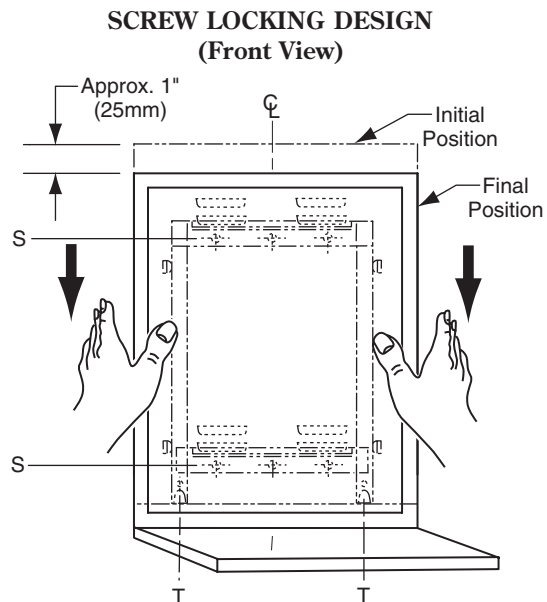

Figure: 4
**Screw locking Design** — Lock mirror to wall hanger by tightening Phillips-head locking screws that are concealed in the bottom of frame at points indicated by a *T*. Mirror may be unlocked from wall hanger by loosening locking screws and lifting mirror off of concealed wall hanger (see figure 4).